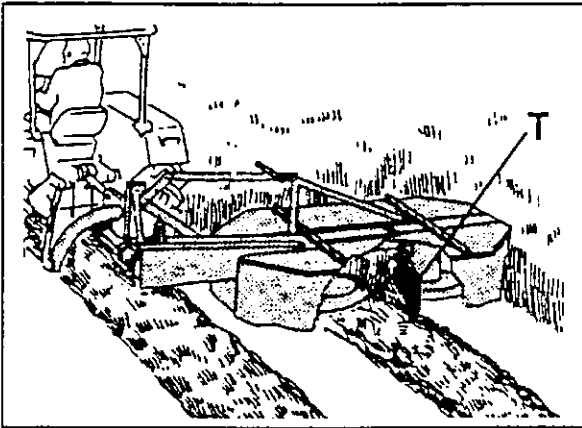

fig. 6-9
To prevent your tractor from driving over the mown swath, even if equipped with extra large tyres or tracks, you can equip the machine with a swath plate (T) (fig. 6-9) available as extra equipment, which allows the crop mown to be properly separated from the standing one.